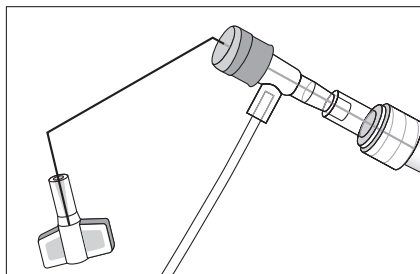

Figure 3
8. If provided with a braided placement wire that includes a handle, kink proximal end of placement wire at side-port connector to minimize risk of placement wire exiting distal tip of catheter during insertion (refer to Figure 3).